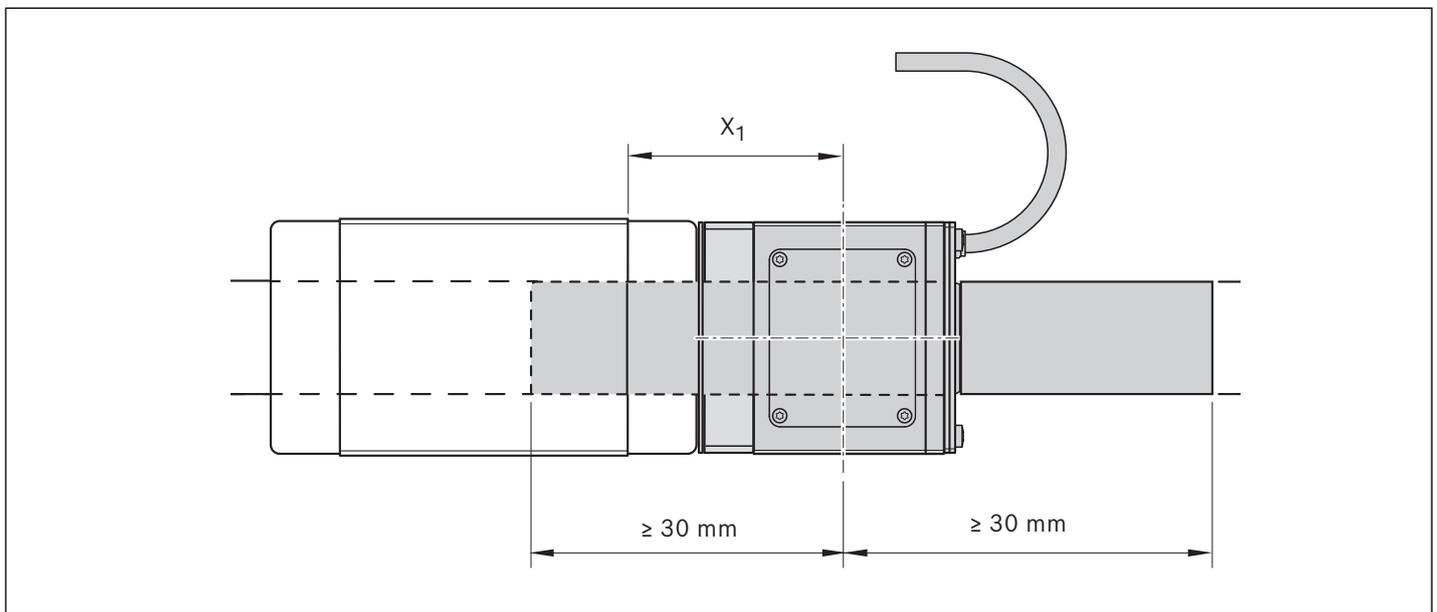

Fig. 7: Applicable measurement range
- ▶ The measuring head must remain on a measuring rail during operation and must not pass over joints. The distance of the point marked with X_1 to the rail joint must not fall below 30 mm. The applicable measurement range respectively corresponds to the rail length minus 2 x 30 mm.  Fig. 7.